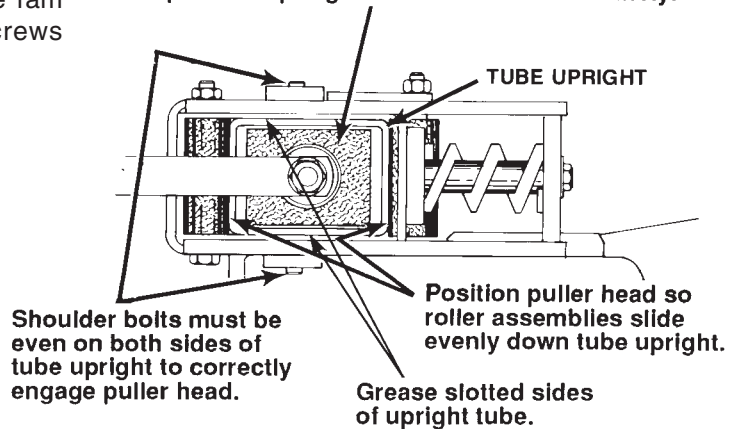

FIGURE 9
21. Grease the rollers on the puller jaw and head assembly. Grease the slotted sides of the upright tube. Lower and slide the entire head assembly down until it rests evenly on the shoulder bolts. **IMPORTANT: The spring cap (303033) must slide into the tube upright evenly as pressure from the weight of the puller head assembly pushes the spring (207521) down over the threaded rod (303108). See Figure 9.**